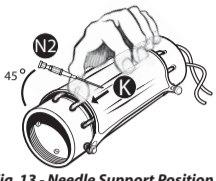
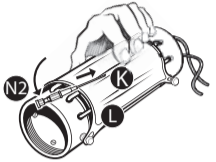

Fig. 13 - Needle Support Position
Fig. 14 - Needle Support Position
3. Form a letter “C” with the thumb and index finger of one hand. Position index finger over one of NON-RED veins **K** above intended injection site for that vein near edge of skin patch **L** (Fig. 13). Position thumb below intended injection site and apply a small amount of downward pressure to pull skin taut (Fig. 13 arrow).
4. Position needle **N2** at 45 degree angle to the vein **K** with needle's bevel edge facing UP. You may use thumb as an angle guide for inserting needle **N2** (Fig. 13). Slowly insert needle **N2** into vein **K**. Slight resistance will be felt as needle **N2** advances through skin patch **L** and vein wall (Fig. 13). Once needle **N2** pierces vein wall, reposition thumb and rotate needle **N2** down to just above skin patch **L** (Fig. 14). Slowly advance needle **N2** a quarter inch into center of vein **K** (Fig. 14 arrow).